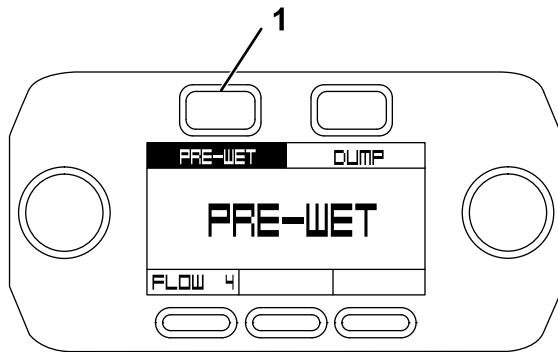

Figure 48
- On the pre-wet screen, press the Pre-Wet button (Figure 48).